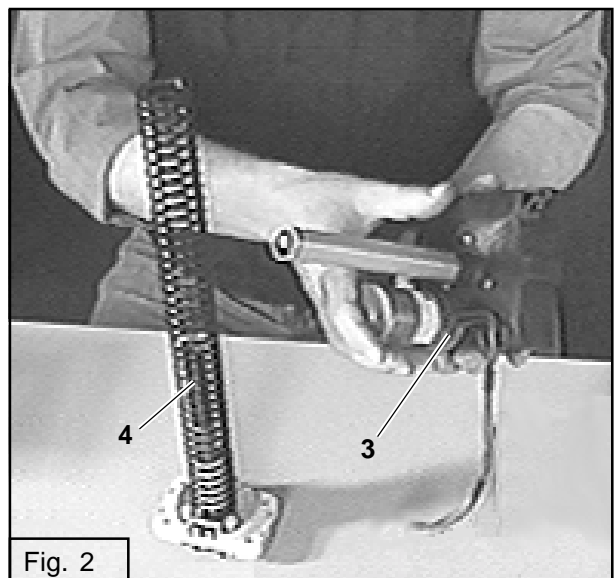

Fig. 2
- Remove the bearing housing (3) and the spring (4). (Fig. 2)